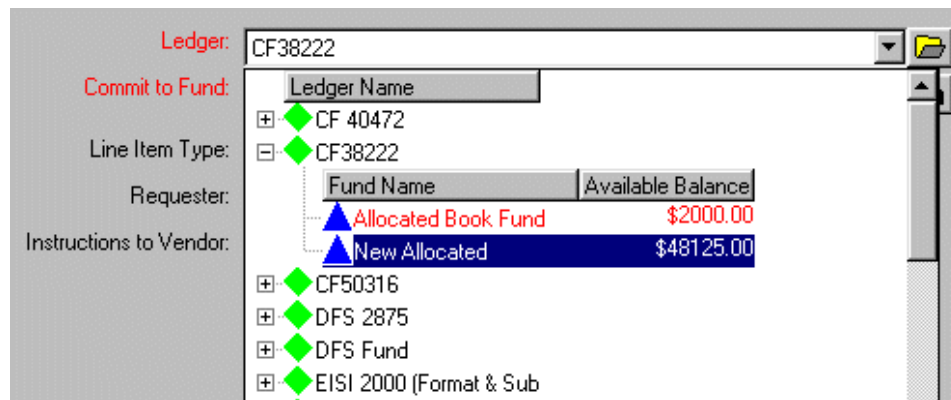

Figure 6-71. Ledger/Fund hierarchy displayed in the Ledger field
- If you want to select a fund from the ledger/fund hierarchy (Figure 6-71) rather than typing the fund code into the **Commit to Fund** field, click the **folder** button beside the **Ledger** field. This displays a hierarchy of available ledgers and funds. To aid you in selecting an appropriate fund, each fund's available balance displays within the hierarchy.